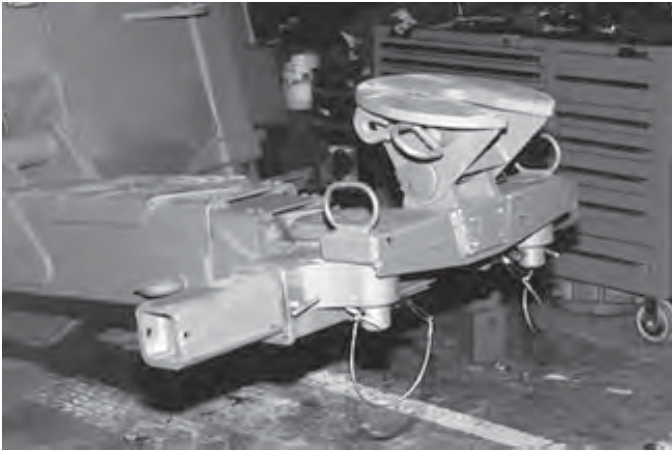

FIGURE 4A.20
- (d) Install left and right Chain Hook Adapters on crossbar and secure with two (2) retaining bolts and safety pins. Remove pull pin from fifth wheel adapter. Position and align fifth wheel adapter with trailer kingpin at proper elevation and extend underlift until adapter engages trailer kingpin. Replace pull pin and secure with safety pin. Attach two 1/2" high test tow chains (MINIMUM REQUIRED) to hooks on both sides of underlift outer boom and left & right chain hook adapters. Extend underlift until chains are tight to prevent crossbar from pivoting. See Figure 4A.21.